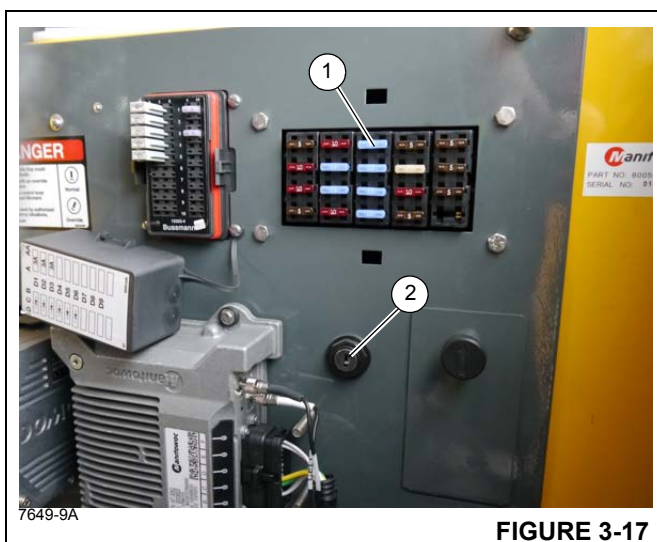

FIGURE 3-17
The fuse panel (1) (Figure 3-17) is located behind the cab seat on the cab fuse and relay panel assembly. It contains up to 20 fuses that protect the various electrical components of the crane.
The RCL emergency override switch (2) (Figure 3-17) is a key operated switch that is located inside the operator cab on the panel assembly behind the seat. When actuated (turned clockwise), the switch will override and prevent the RCL from locking out craning functions (Third Wrap Limit and Anti Two-Block) should an overload condition occur. Turn the key counterclockwise to bypass the Anti Two-Block Switch, Telescope extend/retract, 3rd Wrap Indicator (hoist lowering limit) and Boom up/down.